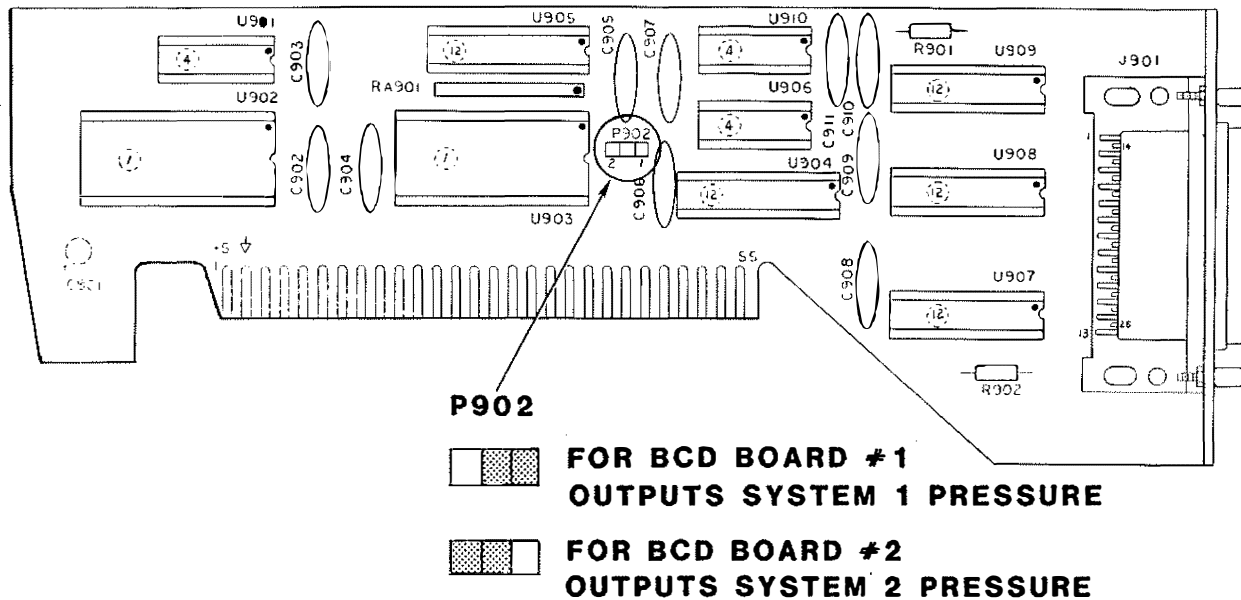

Figure 2-7. BCD Option Card
- e. Ensure that the card is configured for the data it is to output (refer to Figure 2-7).